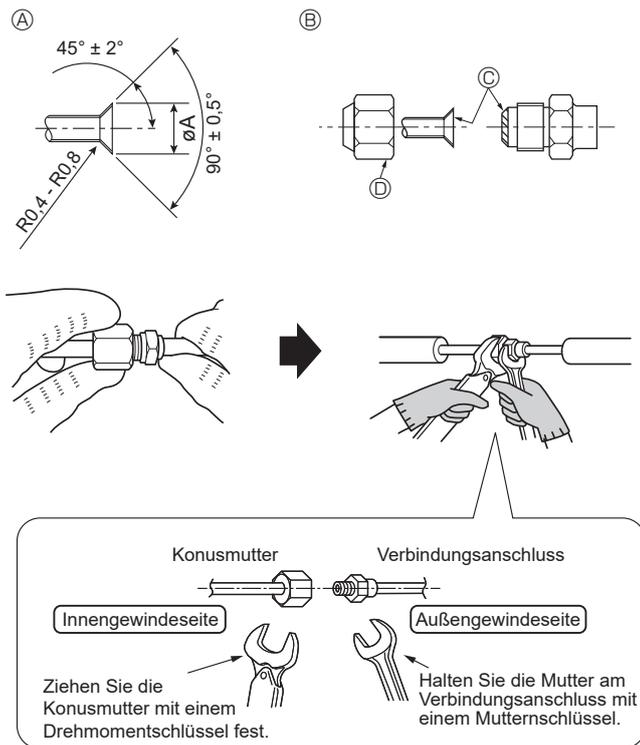

Abb. 4-1
4.1. Rohranschlüsse (Abb. 4-1)